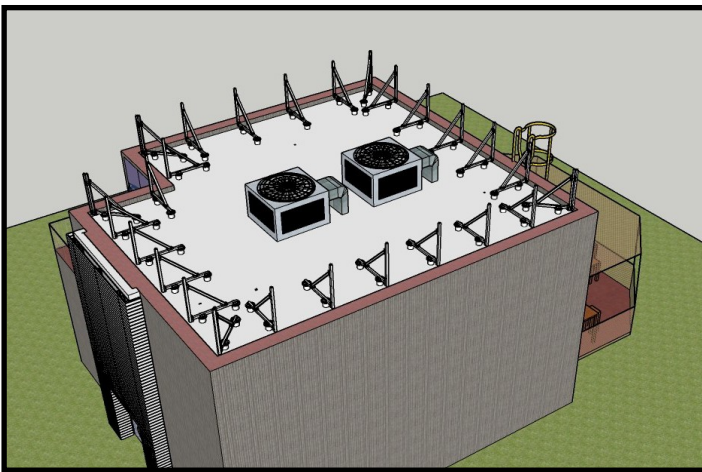

Fig 12
9. Once you have the string line in place, assemble the rest of the frames between the two corner frames. Make sure the tops of the Vertical Tubes are level with the string and that they are plumb. Repeat this process on all sides (Fig 12).
11. Secure the Hat Track (#1) to the Vertical Tube (#7) using the #14 x 1" Tek screws (#2) provided (Fig 12).